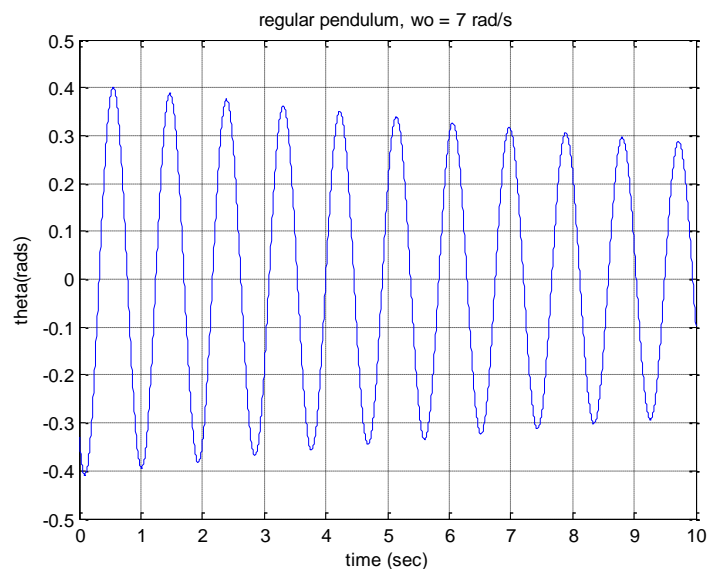

Figure 3: Estimation of ω_θ .
5. You should include a graph of the pendulum oscillation (`plot(time, theta)`) with a descriptive title in your memo submission (see Figure 3).